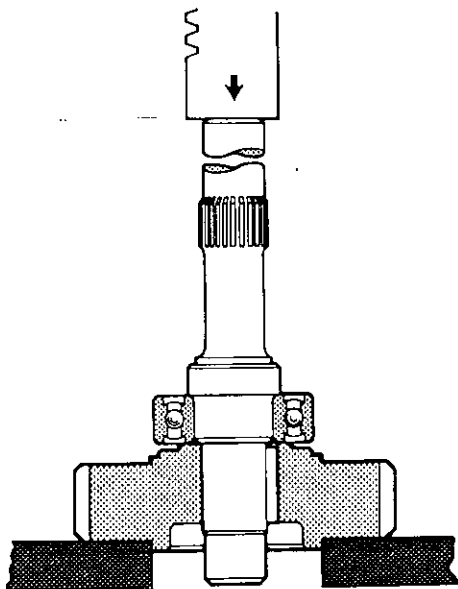

Figure 4.18
5. Insert the drive shaft key (27) into the shaft (28) and orient the drive shaft gear (9) to the shaft and key with the raised boss toward the bearing. Press gear onto the shaft, as shown in Figure 4.18.